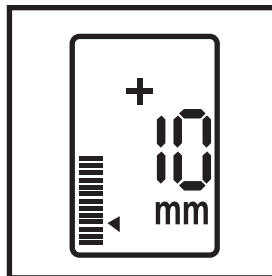

Fig. 4
6. Verify vessel access using pressure reading on COMPASS display (refer to Fig. 4).